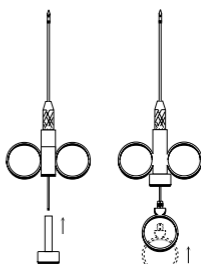

Figure 2
2. Insert connecting nut into the handle. Insert end of needle into orifice of thumb ring so that the needle is seated completely in the thumb ring in a vertical, upright position (**Figure 2**).